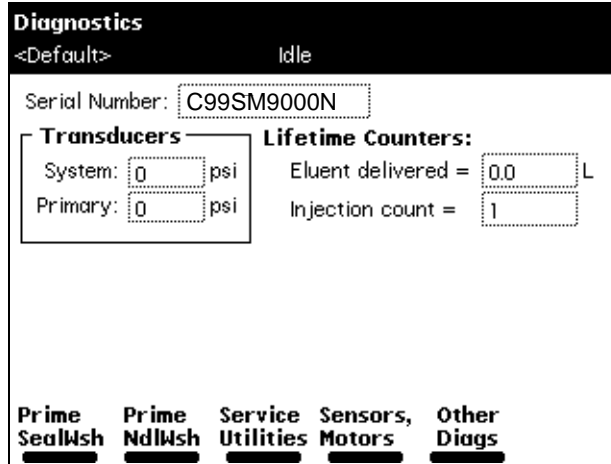

Figure 8-2 Diagnostics Screen
3. In the Main screen, press the **Diag** screen key. The Diagnostics screen appears (Figure 8-2).
1. Press the **Diag** screen key in the Main screen. The Diagnostics screen appears (Figure 8-2) with the following fields: